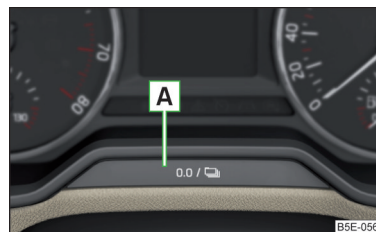

Fig. 34
- › Press and hold the button **A** » Fig. 34 until the **Service** is shown in the display.